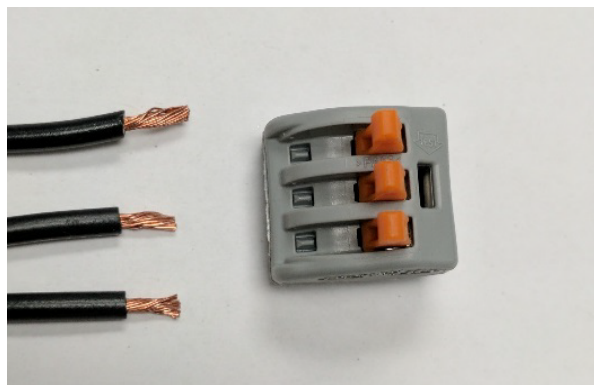

Figure 17 – Before installing line voltage motor connection in 3-position lever nut for dual motors
- a. **(DUAL MOTORS ONLY)** Cut off male quick-connect on Black wire on WH#. Locate the two BLACK wires removed from "LINE VOLTAGE IN" portion of FCRB in Step 4. Install all three wires into the 3-position lever nut (see Figures 17 and 18)
- a. **(DUAL MOTORS ONLY)** Cut off male quick-connect on WHITE wire on WH3. Locate the two WHITE wires removed from "TO FAN MTR" portion of FCRB in Step 4. Install all three wires into the 3-position lever nut (see Figures 17 and 18).
- a. **(DUAL MOTORS ONLY)** Cut off male quick-connect on BLACK wire on WH3. Locate the two BLACK wires removed from "LINE VOLTAGE IN" portion of FCRB in Step 4. Install all three wires into the 3-position lever nut (see Figures 17 and 18).